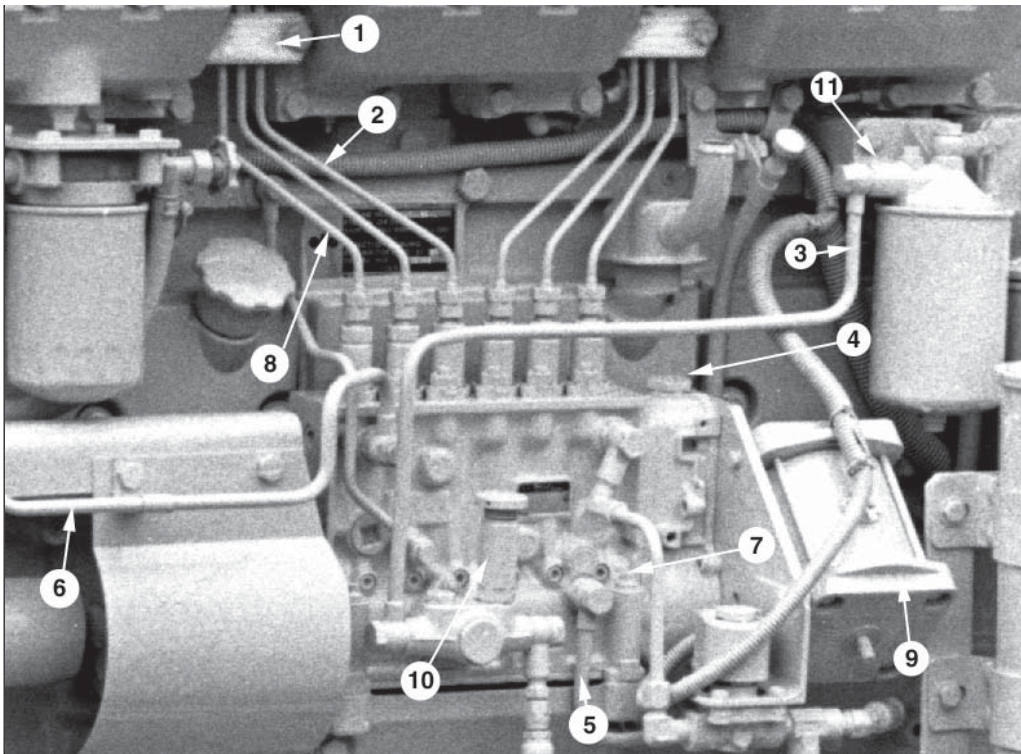

Figure 11. Injection Pump Servicing Points
2. To bleed the fuel system, loosen the vent plug in the top of the fuel filter housing. Unscrew the hand primer knurled knob on the injection pump and loosen until it can be pulled up by hand (see Fig. 11,10).